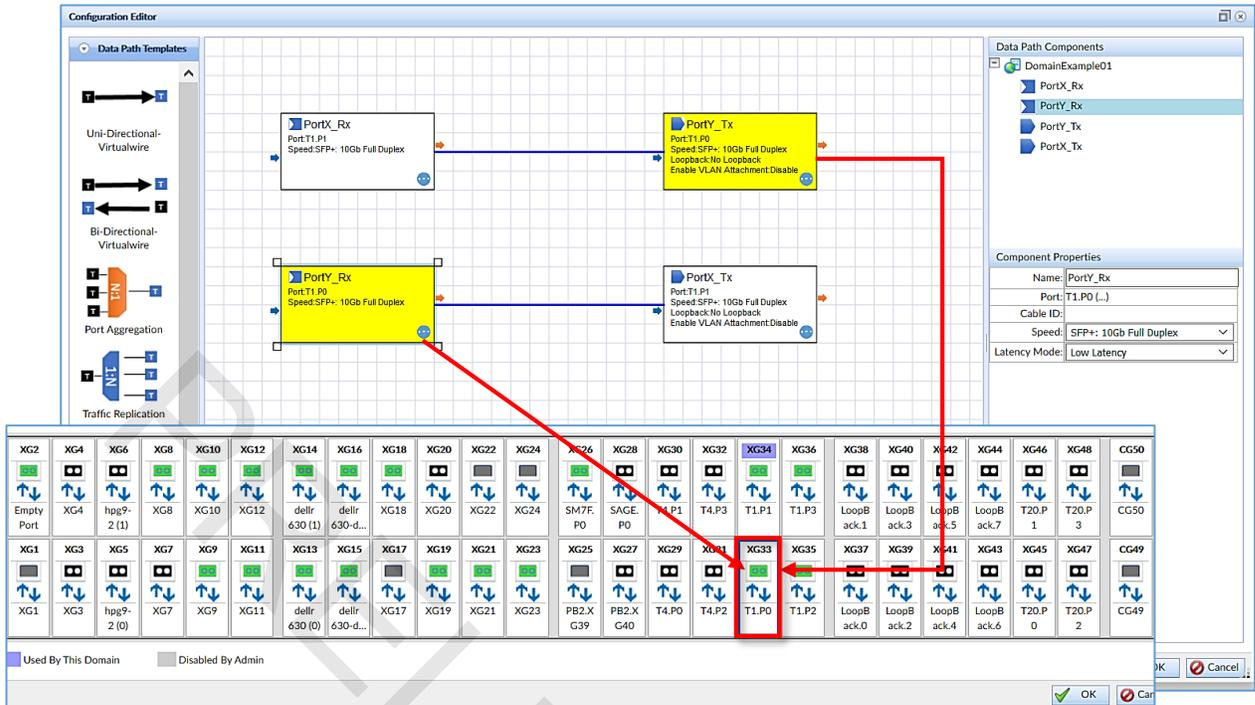

Figure 25: Assigning port **XG33** to the bi-directional virtual wire template.
6. Double-click the blocks **PortY_Rx** and **PortY_Tx** to assign the same port (Figure 25). In this example **PortY_Rx** and **PortY_Tx** are assigned to port **XG33**.
The Device View window appears, displaying the available ports (Figure 25 inset).